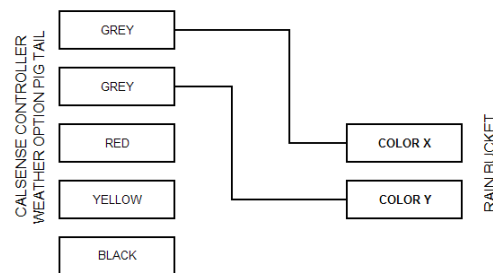

Figure 2
- 1). The Calsense irrigation controller has an additional pigtail cable for reading rainfall data collected and transmitted by the rain bucket. This cable has two (2) 22 AWG grey wires that connect to the two (2) colored wires of the rain bucket. The 25 foot, two (2) wire connecting cable from the rain bucket can be shortened or lengthened as required (Figure 2).